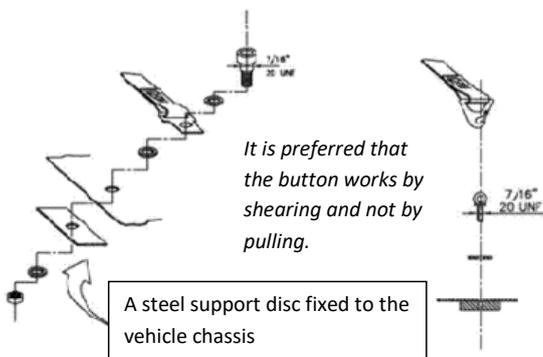

Figure 1 - General fixing system
- 1) General fixing system: see Figure 1